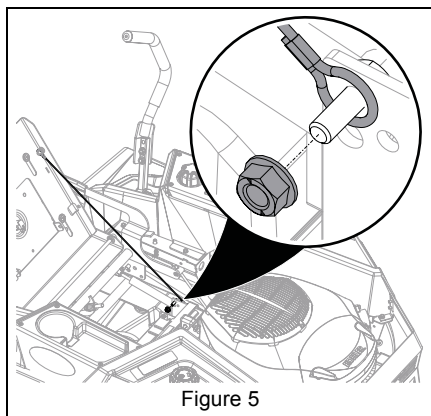

Figure 5
2. Remove nut from bolt on battery tray. Retain nut. See Figure 5.